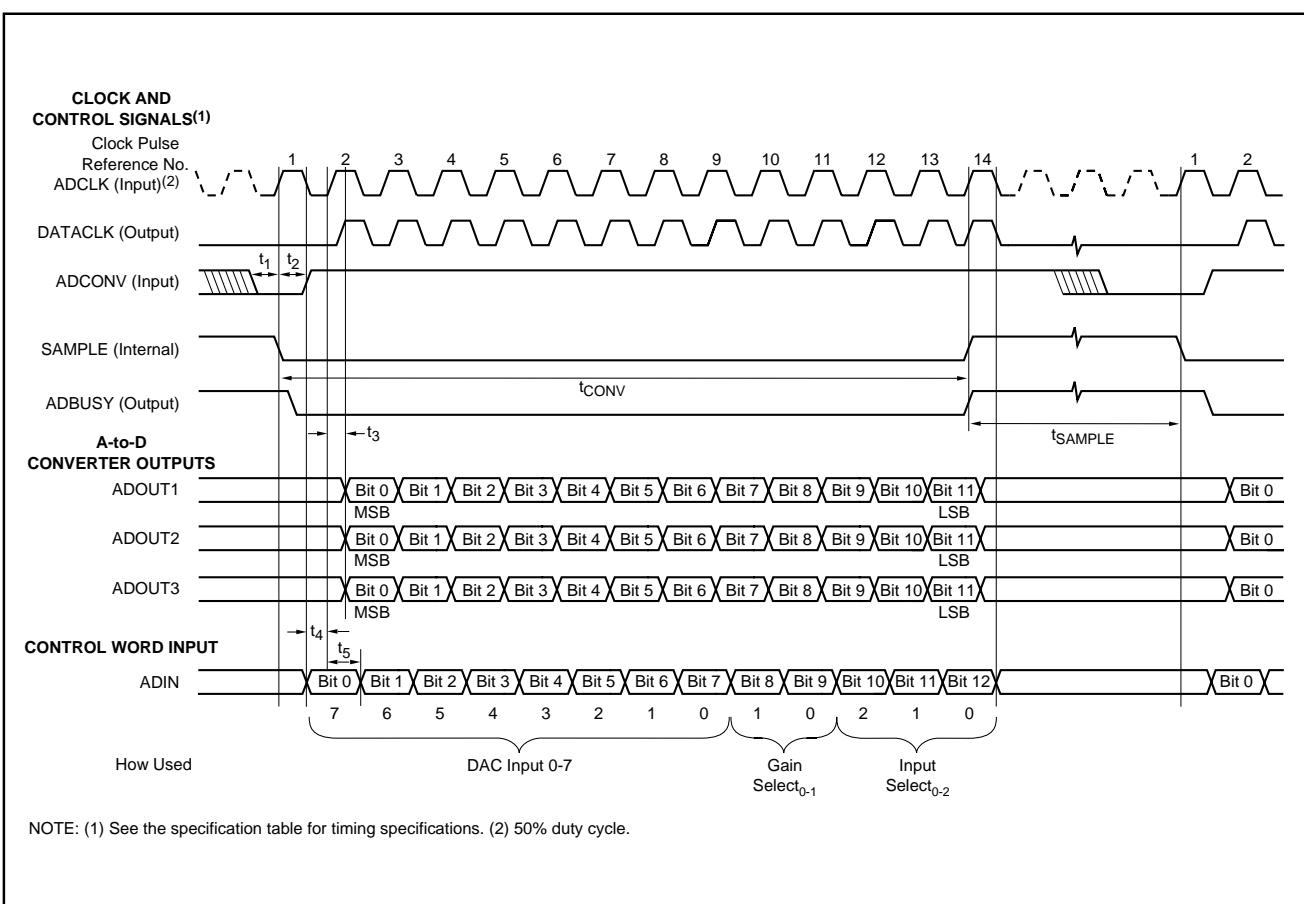

FIGURE 2. Timing Diagram.
sample-and-hold amplifier. It communicates over three synchronous SPI/SSI serial output and one input ports. The VECANA01 operates on external clock that also determines the output data rate (see Figure 2).
The VECANA01 contains seven sample-and-hold amplifiers. Five of them (SH_1 through SH_5) sample simultaneously and have their sample-and-hold timing internally synchronized (the timing is shown in Figure 2). Three of the sample-and-holds (SH_1 , SH_3 , and SH_5) are connected to the input multiplexers so that they can provide simultaneous sampling for all of their channel inputs. In addition, SH_2 and SH_4 simultaneously sample the third input of their channel (A2 and B2, respectively). This is useful in motor control applications where A1 and B1 are the quadrature inputs for one position sensor, and A2 and B2 are the quadrature inputs for a second position sensor (see Figure 9). In that application, it is desir-
An 8-bit DAC provides 256 output voltage levels from 0V to 2.499V (see Table I for input/output relationships). The DAC is controlled by the DAC Input portion of the input setup word. The DAC Input portion of the word is strobed into the DAC at the end of the conversion cycle (14th CLK pulse in Figure 2).
The value of the DAC output voltage is determined by the DAC Input portion of the ADIN word (bits 0 through 7, see Figure 2). The 8-bit DAC has 256 possible output steps from 0V to +2.499V. The value of 1LSB is 0.0098V.
Sampling and conversion is controlled by the ADCONV and ADCLK input (see Figure 2). The VECANA01 is designed to operate from an external clock supplied at the ADCLK
input. This allows the conversion to be synchronous with system timing so that transient noise effects can be minimized. The ADCLK signal may run continuously or may be supplied only during convert sequences. The ADBUSY and DATACLK signals are internally generated and are supplied to make interfaces with microprocessors easier (see Figures 2 and 9).
NOTE: (1) See Figure 2, "Clock Pulse Reference No."
Configuration information for these parameters is contained in the ADIN word (see Figure 2). As one conversion is taking place, the configuration for the next conversion is being loaded into the buffered Input Setup Register via the ADIN word. Tables I, VII, VIII and X shows information regarding these parameters.
The Input Select portion of the ADIN word (bits 10, 11 and 12) (see Figure 2) are decoded and determine the open/closed condition of the multiplexer switches. This in turn determines which input signals are connected to the sample and holds and which sample and holds are connected to the PGAs/ADCs.